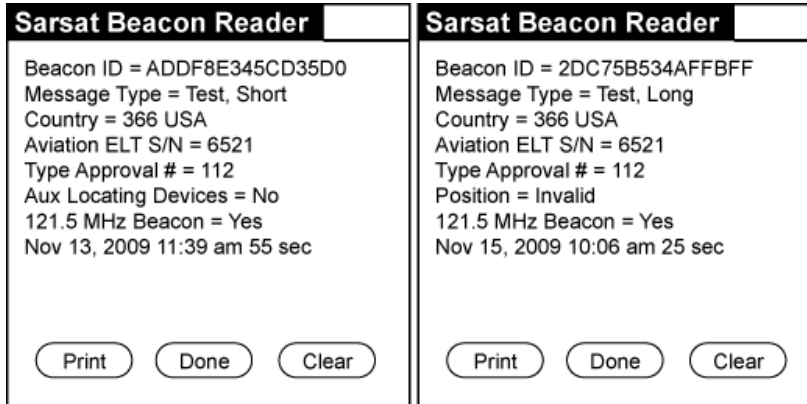

Figure 8 Short & Long 406 MHz Message Examples
- 3) Perform a self-test by placing the control switch in the SELF-TEST position. Once the LED blinks once, release the switch. Example results are shown in Figure 8 Short & Long 406 MHz Message Examples. Actual messages will vary depending on the protocol and information programmed into the ELT.